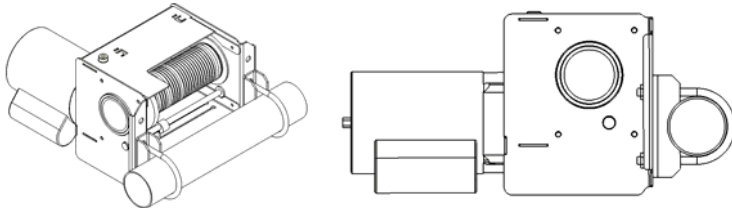

Figure 1
- 1 – Use the two pipe clamps supplied to secure the winch to a 3 1/2" O.D. standard pipe. The use of clamps for 4" O.D. pipe is also provided for on the side base plates of the winch. The pipe clamps will line up with the two pairs of mounting holes on the front flange of the winch (see fig. 1).